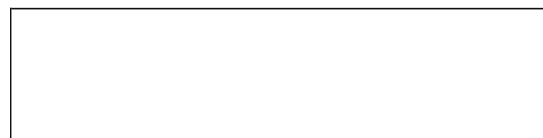

Figure 1: Engine Harness Rear View
2. Press release tab to disconnect wiring harness lead from EGR valve connector (*Figure 1, Item 3*) and remove fir tree fastener from EGR coolant manifold (*Figure 1, Item 1*).
3. Turn ECT1 sensor connector (*Figure 1, Item 4*) locking ring counterclockwise and disconnect from ECT1 sensor (*Figure 1, Item 5*).
23. Install new fir tree fastener from new EGR harness to EGR coolant manifold (*Figure 1, Items 1 and 2*).
24. Connect new EGRV harness connector to EGR valve connector (*Figure 1, Item 3*) and push RED Connector Position Assurance (CPA) tab towards EGR valve connector. Pull gently to verify connector is securely latched.
25. Connect new ECT1 harness connector to ECT1 sensor (Figure 1, Item 5) and turn locking ring clockwise till fully seated.